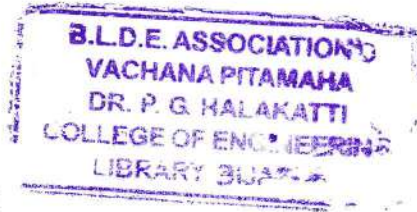

Fig. Q2 (b)
- b. The Fig. Q2 (b) shows a toggle mechanism, Crank OP rotates at a uniform speed of 120 rpm in clockwise direction. Determine the velocity and acceleration of the slider S. The length of the various links are OP = 80 mm, PR = 180 mm, QR = 240 mm and SR = 270 mm. (08 Marks)